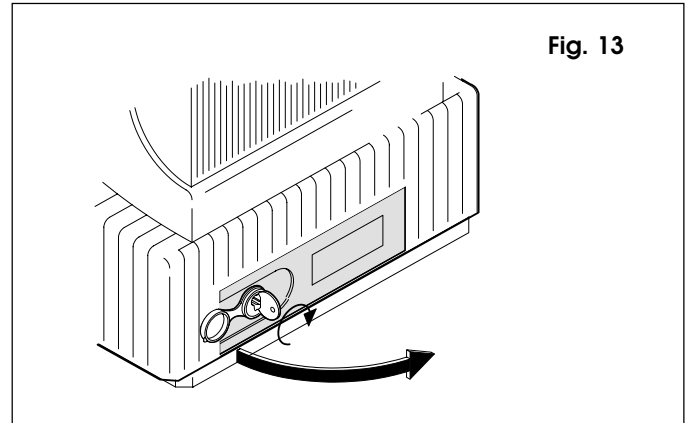

Fig. 13
- open the lid of the lock and insert the relative key in the lock (fig. 13);
- turn the key clockwise and open the cover of the releasing device as shown in figure 13.